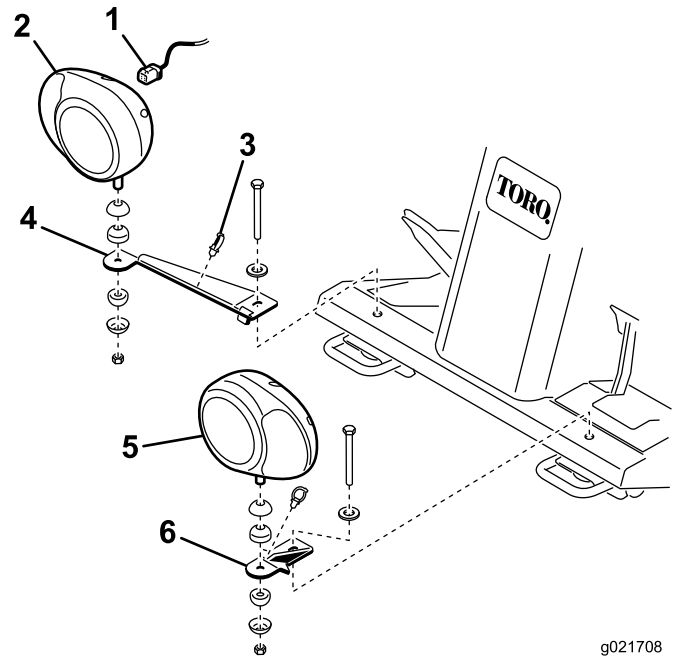

Figure 11
1. Bolt, washer and nut (2)
2. Fasten the R.H and L.H. headlight brackets to the front of the operator's platform with the bolts, washers and nuts previously removed. Position the brackets as shown in Figure 11.
3. Fasten the R.H and L.H. headlight assemblies to the headlight brackets (Figure 11) with the fasteners supplied with the lights. Make sure the turn signal lens on the headlight is positioned toward the outside of the machine.
5. Route the headlight wire harness underneath the front edge of the operator's platform and connect it to the headlights (Figure 11).